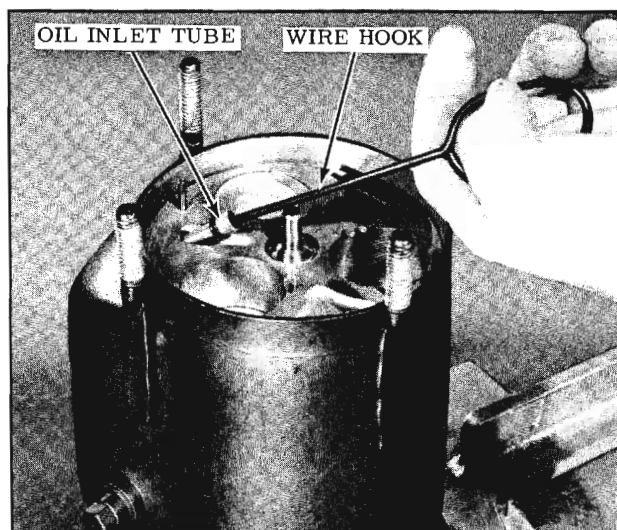

Fig. 15-66 Removing Oil Inlet Tube
8. Remove the oil inlet tube and "O" ring. Discard "O" ring. (Fig. 15-66)